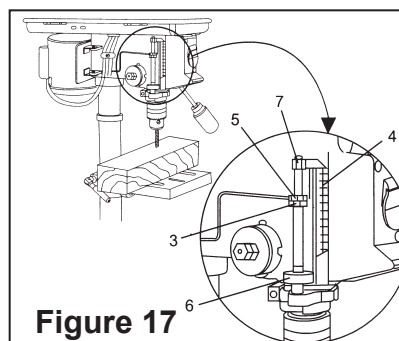

Figure 17
- Spin the lower nut (3) down to contact the depth stop lug (6) on the head (Figure 17).
- Spin the upper nut (5) down and tighten against the lower nut (3)(Figure 17).
Depth scale method (Figure 17)